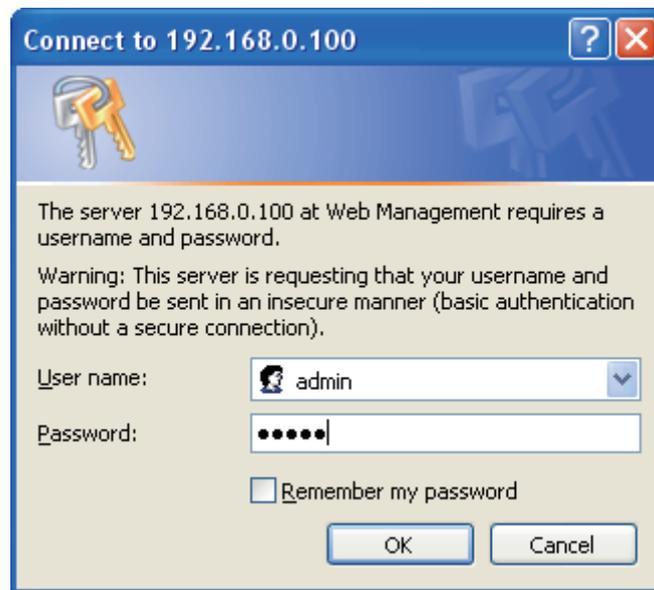

Figure 9-2: Login Screen
2. When the following dialog box appears, please enter the default user name and password “**admin**”. The login screen in Figure 9-2 appears.